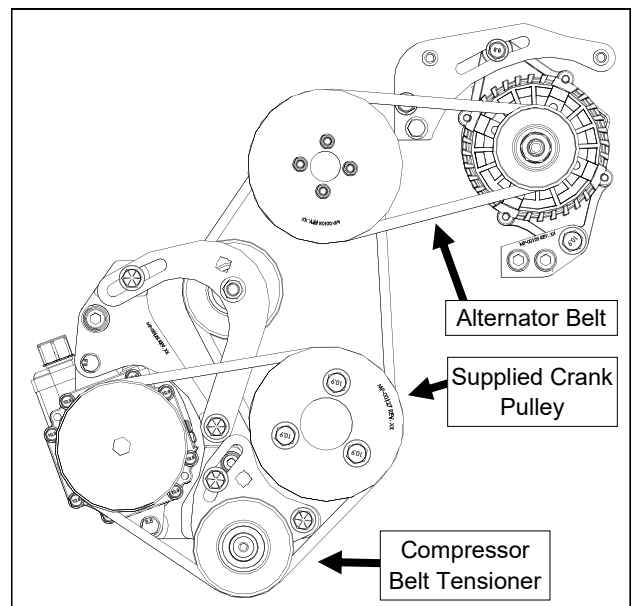

Fig. 3.7 Alternator Belt
- 3.7 Per fig. 3.7, install alternator belt (AX23). Tension and tighten fasteners. Lower alternator fasteners **torque to 30 ft lbs.** Upper alternator adjustment bolt **torque to 20 ft lbs.**